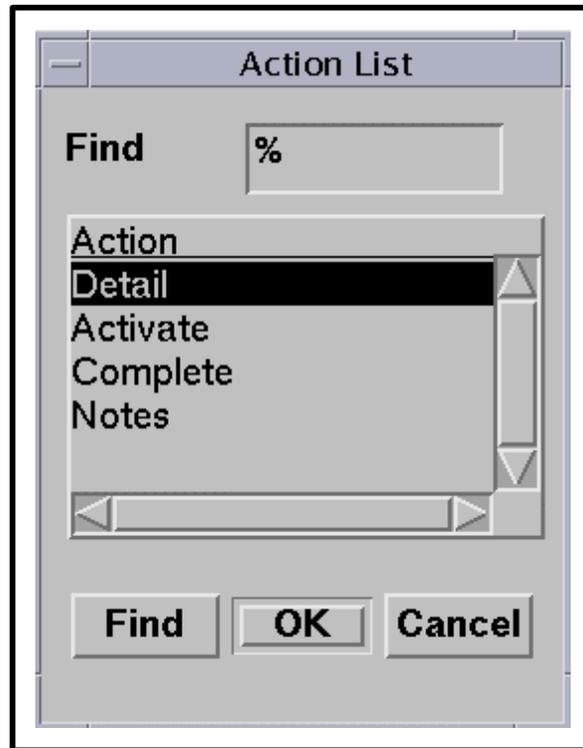

Figure 37. Action List Box
- The **Action List** box (Figure 37) is displayed.